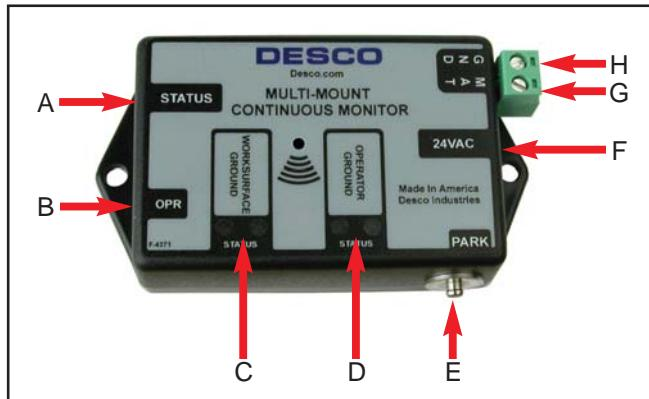

Figure 2. Multi-Mount Continuous Monitor features and components
#### Features and Components (See Figure 2)
1. Plug a wrist strap cord, not attached to the wristband, into the monitored banana jack labeled OPR on the side of the unit (See Figure 2). This automatically activates the selected operator channel. The red operator LED should illuminate.